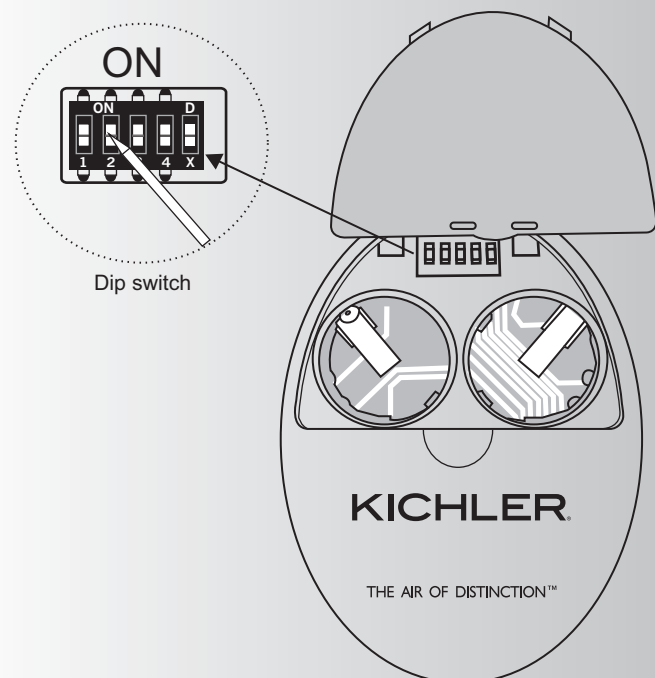

Fig. 12
**Step 1.** Connect the fan supply (black) wire to the black household supply wire as shown in Figure 12.
The Frequency Selector is a "Dip Switch Block" inside the Battery compartment of the Transmitter. (See figure 12) You change frequencies by arranging the small switches numbered 1 through 4 in a up or down position. 16 possible frequencies or combinations are possible.